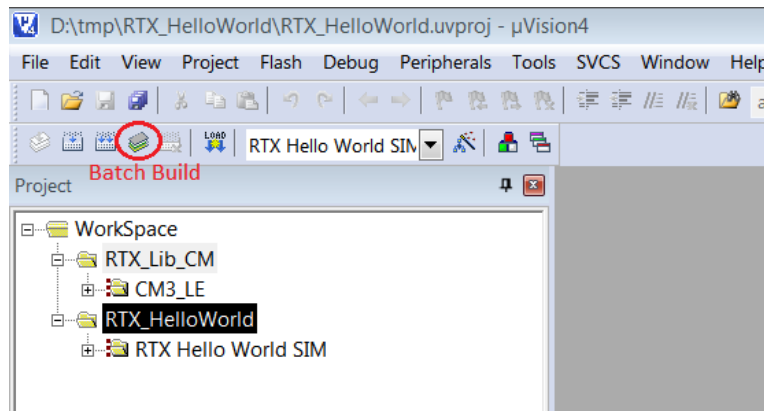
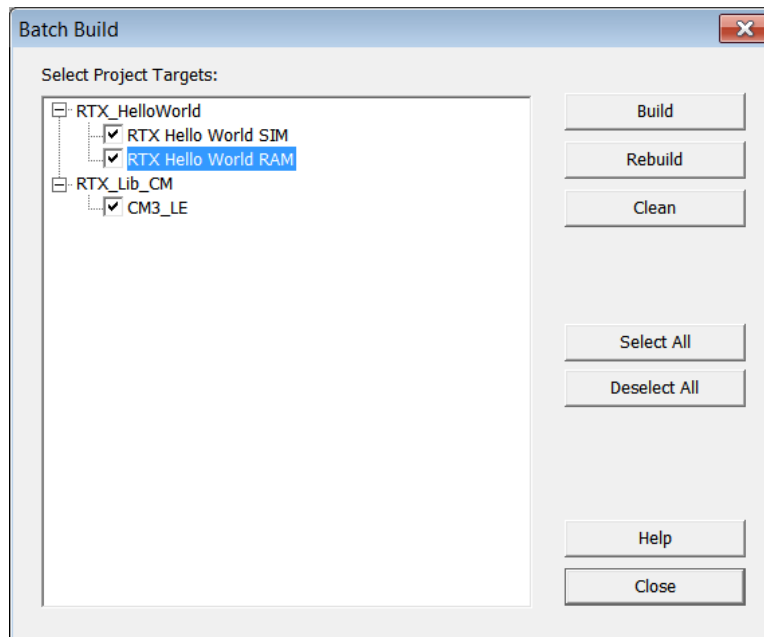

Figure 1.23: Keil IDE: Workspace with Two Projects
Figure 1.24: Keil IDE: Batch Build
4. Two projects appear under the Project Window (see Figure 1.23). Click the Batch Build button (see Figure 1.23 to bring up the Batch Build window. Select all the targets you want to build in a batch (see Figure 1.24). By setting up batch build, multiple targets can be built by a single click of the Build button inside the batch build dialogue box ².